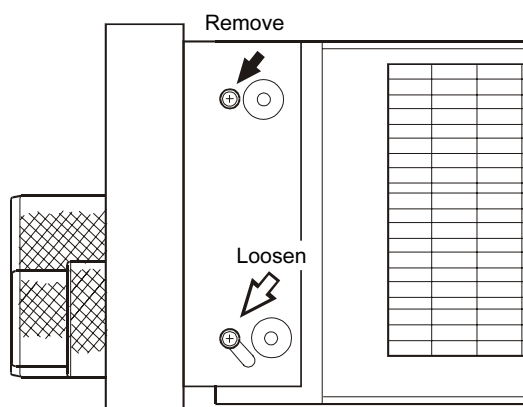

Figure 3
5. Referring to Figure 3, remove the screws (↖) at the top left and top right that hold the front panel assembly in place, and loosen the two screws (↗) at the bottom left and bottom right, so they can hold the front panel as it is folded forward.